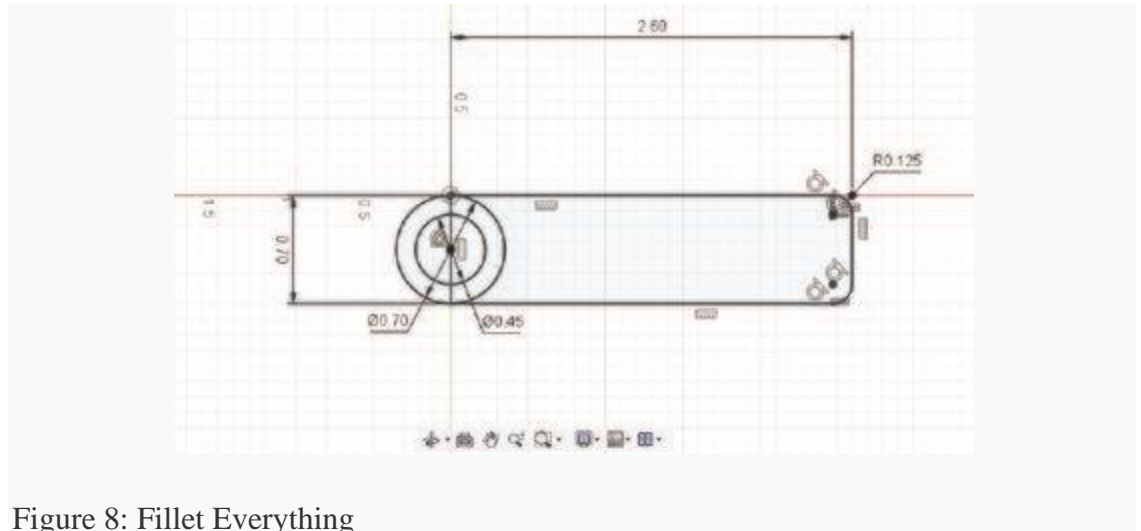

Figure 8: Fillet Everything
- iv. The sketch should look like Figure 8.